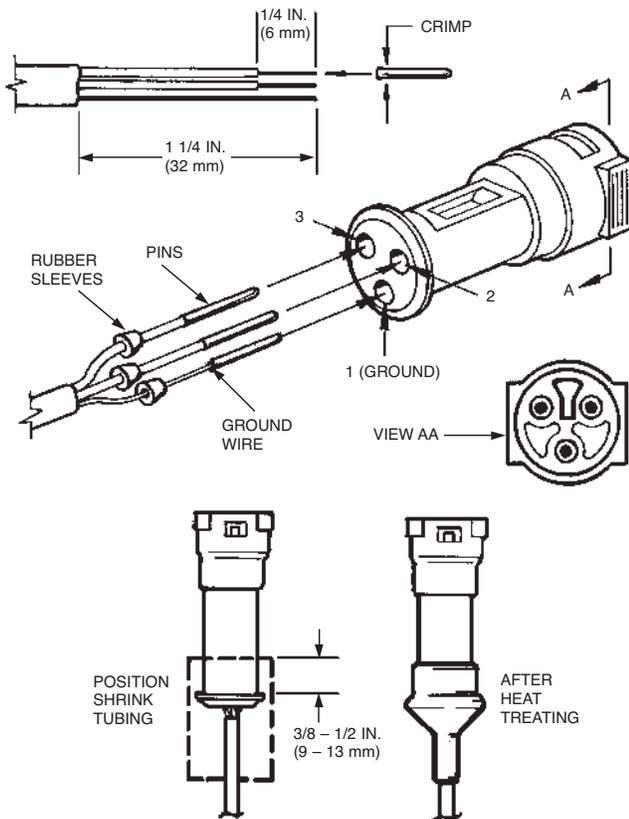

FIGURE 29
5. With the outer jacket and sheath cut back, strip the insulation on the two inner wires 1/4 in. (6 mm). See Figure 29.
6. Slide the rubber sleeves from the AMP connector over the 3 wires. The small end of the sleeves must be toward the striped end of the wires. See Figure 29.
7. Slide a piece of heat shrinkable tubing onto the cable. See Figure 29.
8. Crimp the pins onto all three wires, using AMP crimping tool, AMP part No. 90277-1. See Figure 29. This tool is required for proper crimping. It can be purchased through your local electronics distributor or is available through ANSUL as Part No. 416784.
9. Press the pins into the connector housing. The two insulated wires go into holes 2 and 3 and the bare ground wire goes into hole 1. Make certain each locks into place. The bare ground wire must go into hole 1 but it makes no difference which of the two insulated wires goes into hole 2 or 3. See Figure 29.
11. Fit the heat shrinkable tubing over the connector so it covers approximately 3/8 in. to 1/2 in. (9 mm to 13 mm) of the connector. Heat the tubing with an approved heat gun, shrinking the tubing onto the connector and cable to form a tight, waterproof fit. See Figure 29.